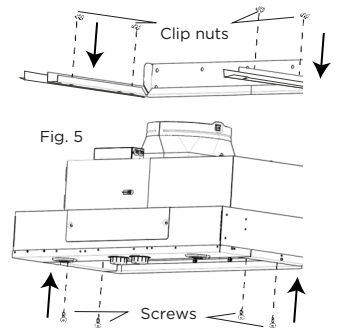

Fig. 5
10. Place 4 clip nuts on the horizontal supports in the holes previously identified. (Fig. 5)
11. Attach the hood to the horizontal bracket with 4 x 6 x 16 mm screws as shown in the picture. (Fig. 5)